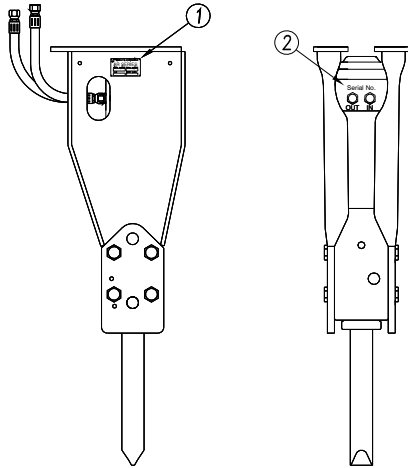

Fig 2-1 Equipment Identification
- Record the equipment's serial number to the space provided below. This information may be obtained from the Equipment Identification Tag. Refer to Fig 2-1 for the location of the tag.